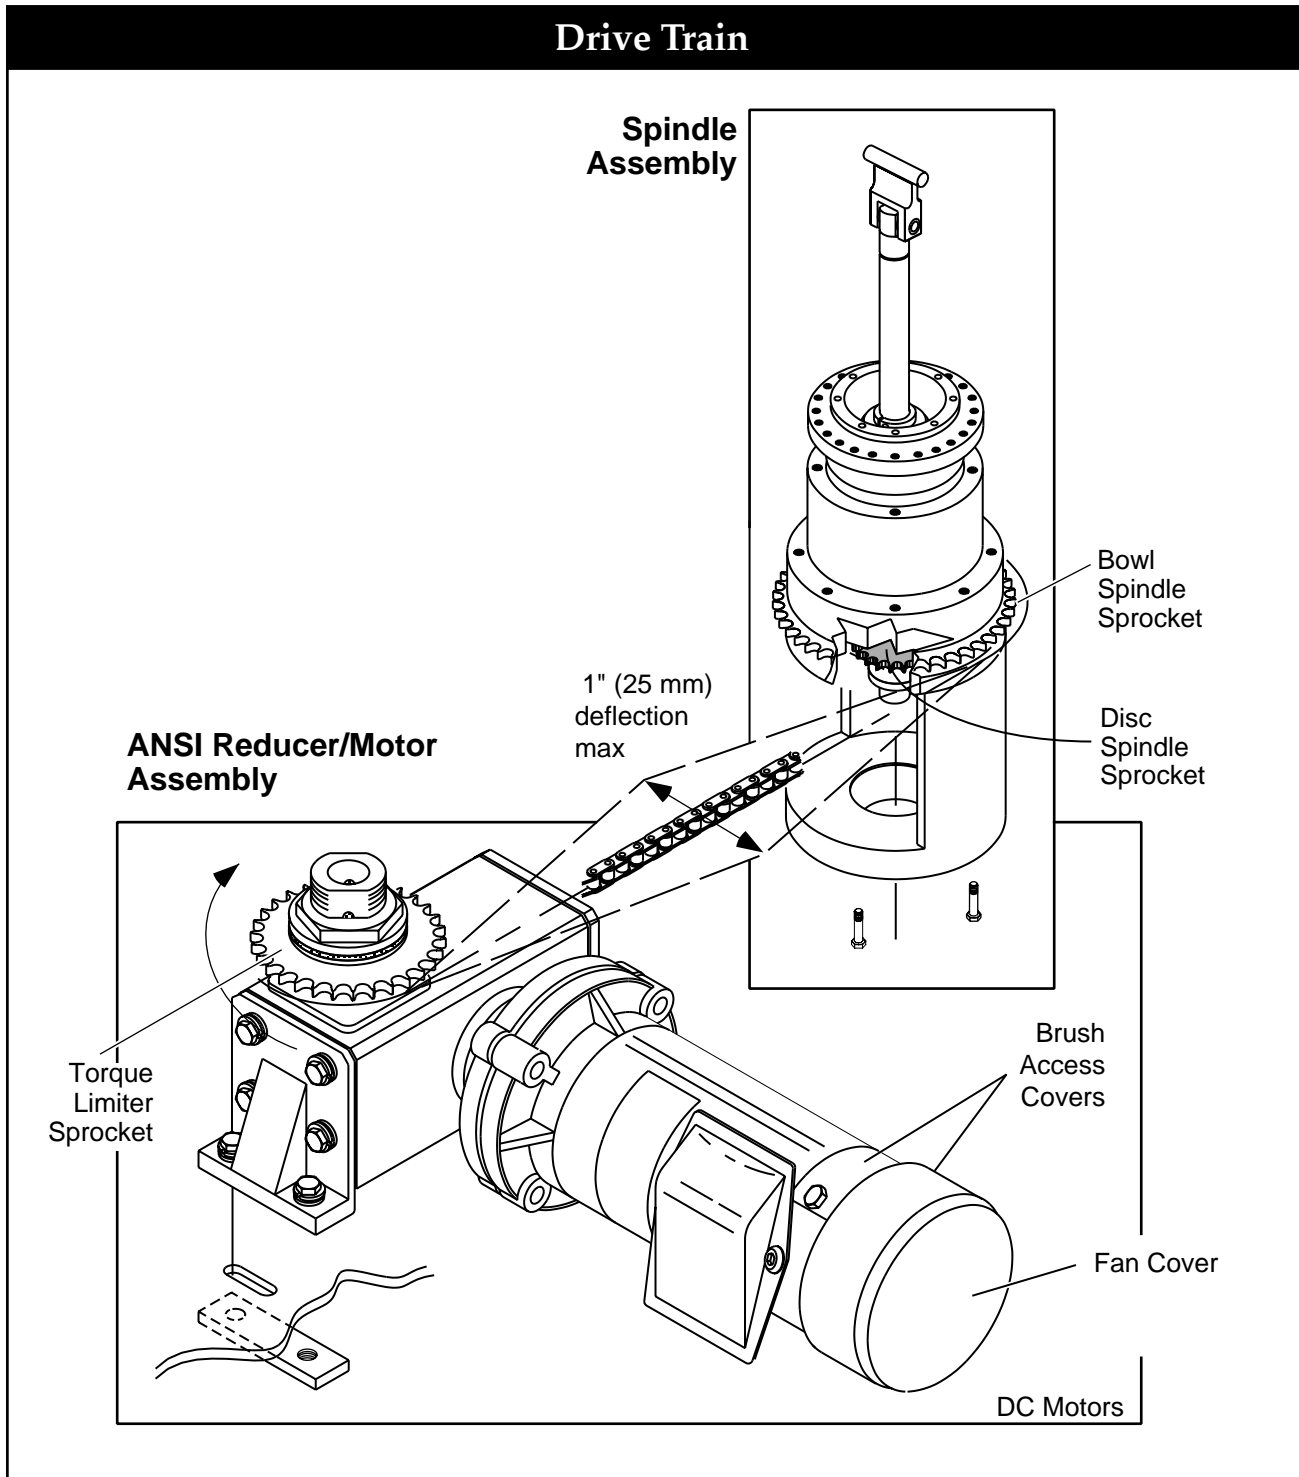

Figure 4-3. FTF-30-RD Drive Train (DC Motor)
Step 2—Inspect Drive Chain. Midway between the sprockets, grasp the chain and move it back and forth. You should not be able to move it more than 1" in either direction. If it moves more than 1", adjustment is required (see Figure 4-3.)
Step 5—Replace Chain. Replace chain and inspect chain tension (refer to Figure 4-3).
Step 7—Replace Chain & Covers. Install bowl drive chain. Inspect chain tension (see Figure 4-3). Replace covers and reconnect power and air.